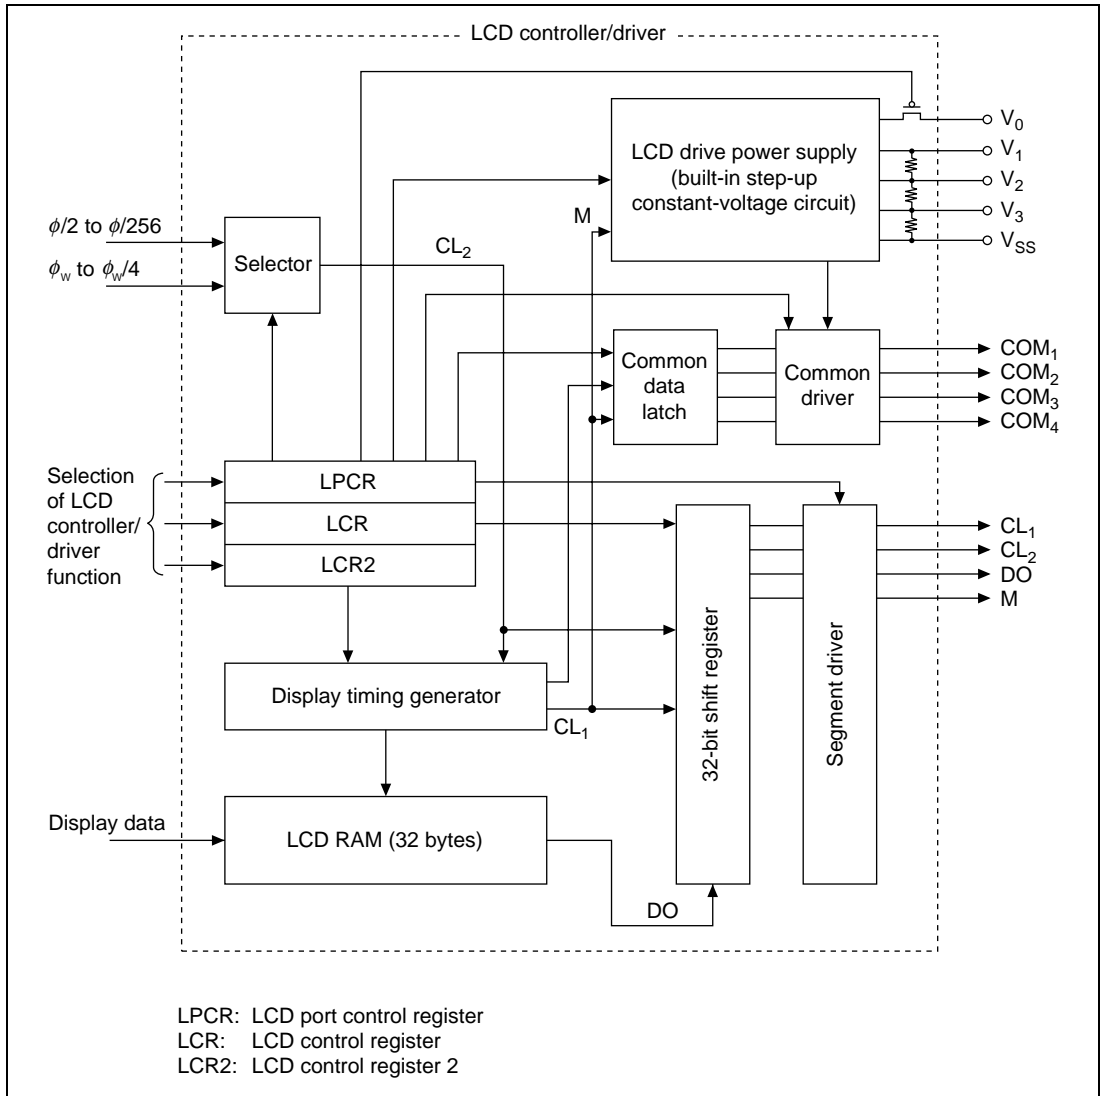

Figure 2 Block Diagram of LCD Controller/Driver (LCD Display with Segment External Expansion)
2. Figure 2 is a block diagram of the LCD controller/driver used in this task examples.